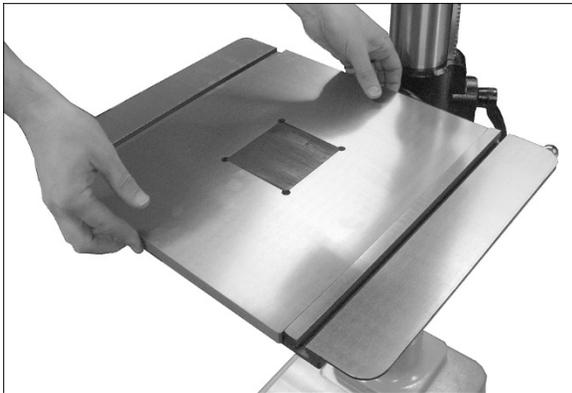

Figure 6-11
3. Install replacement table into main table (Figure 6-11).